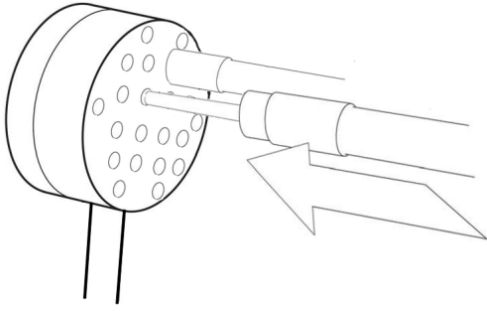

Figure 28: Inserting the distal tip of the optical fibers into the laser shower
- Insert the distal ends of the optical fibers one by one into the drillings of the laser shower. Insert the optical fiber to the point where the tip of the fiber and the bottom of the laser shower are even. (Fig. 28).